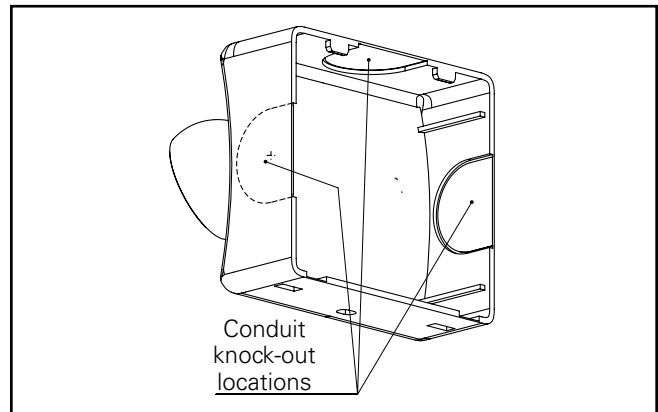

Figure 3.
5. Remove the correct conduit cover knockout(s) for your desired configuration of conduit access. (See Figure 3)